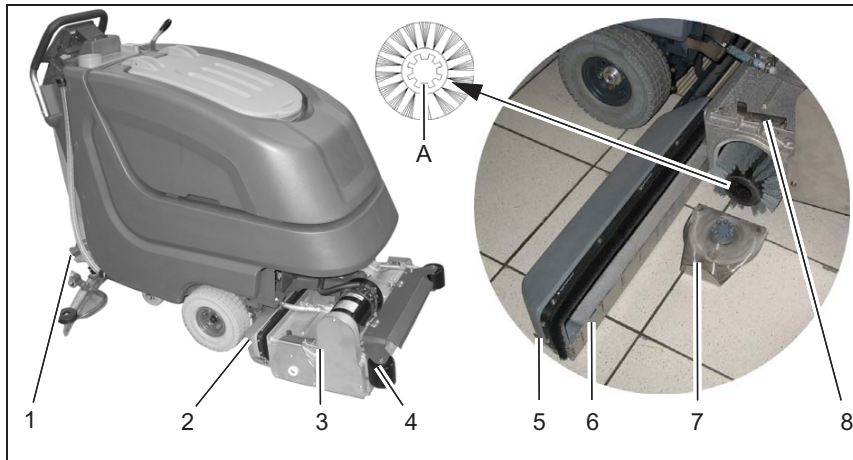

Fig.11
Clean dirt hopper (Fig. 11/2) at daily intervals or as required. Remove dirt hopper from the right machine side (seen in direction of travel). Use quick-release (Fig. 11/5) to loosen feed inlet (Fig. 11/6) and clean dirt hopper.
1. Lift-out cylindrical broom head (Fig. 11/3) by pedal (Fig. 11/1).
2. Release brush seating (Fig. 11/7) by locking lever (Fig. 11/8).
Check deflector rollers (Fig. 11/4) at weekly intervals and replace if required.